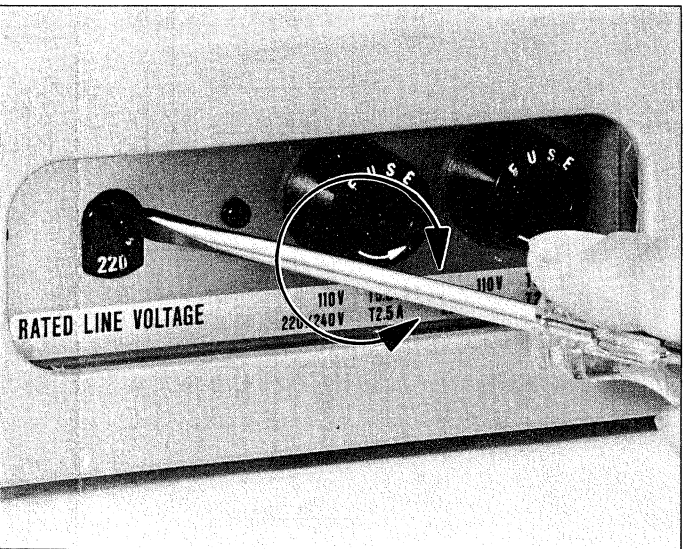

Figure 4-2
2. FUSE REPLACEMENT (Refer to Figure 4-2)